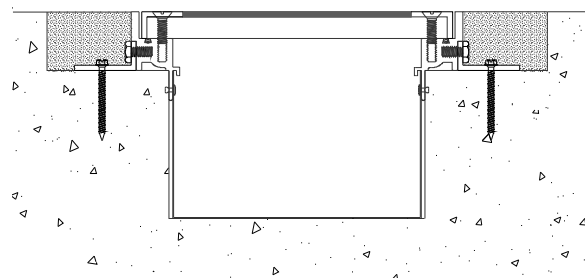

Figure 7
**STEP 11.** Place the cover plate back into its installed position in the frame. Attach the cover plate to the frame using the cover plate bolts, see Figure 7.